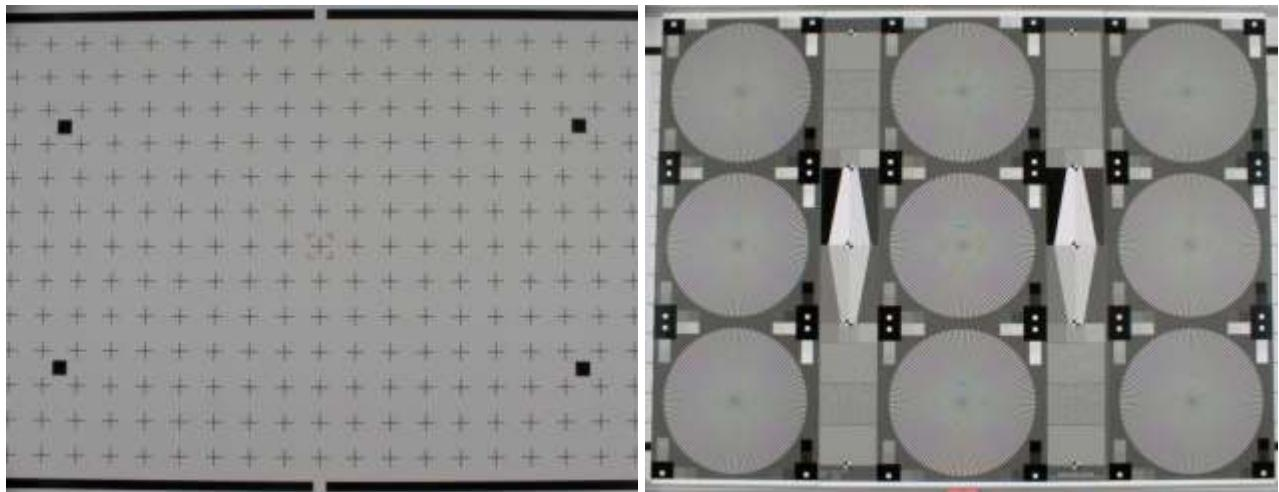

Figure 25. Examples of Images with Upward Camera Tilt
27. If the image appears wider at the top than at the bottom (Figure 25), adjusting the Tripod Vertical Angle Adjustment (top knob) so the front of the camera moves downward will “square-up” the image.